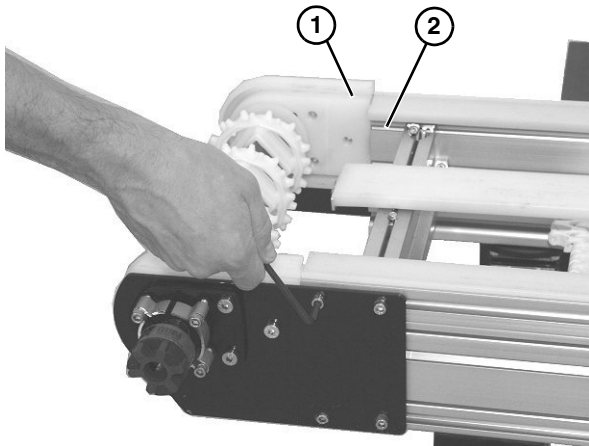

Figure 40
When reinstalling the drive spindle tail assembly, the terminal assembly (Figure 40, item 1) should mate flush with the conveyor frame (Figure 40, item 2).